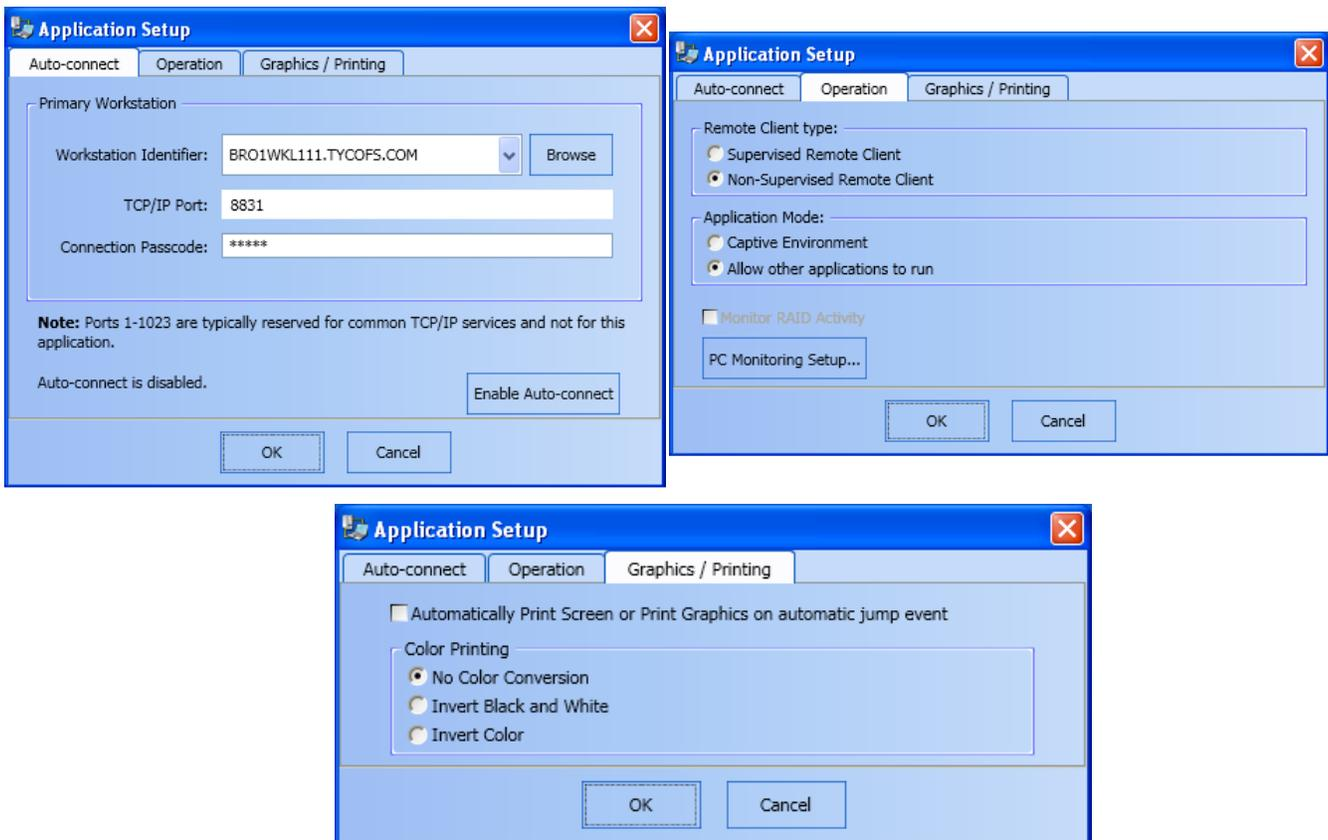
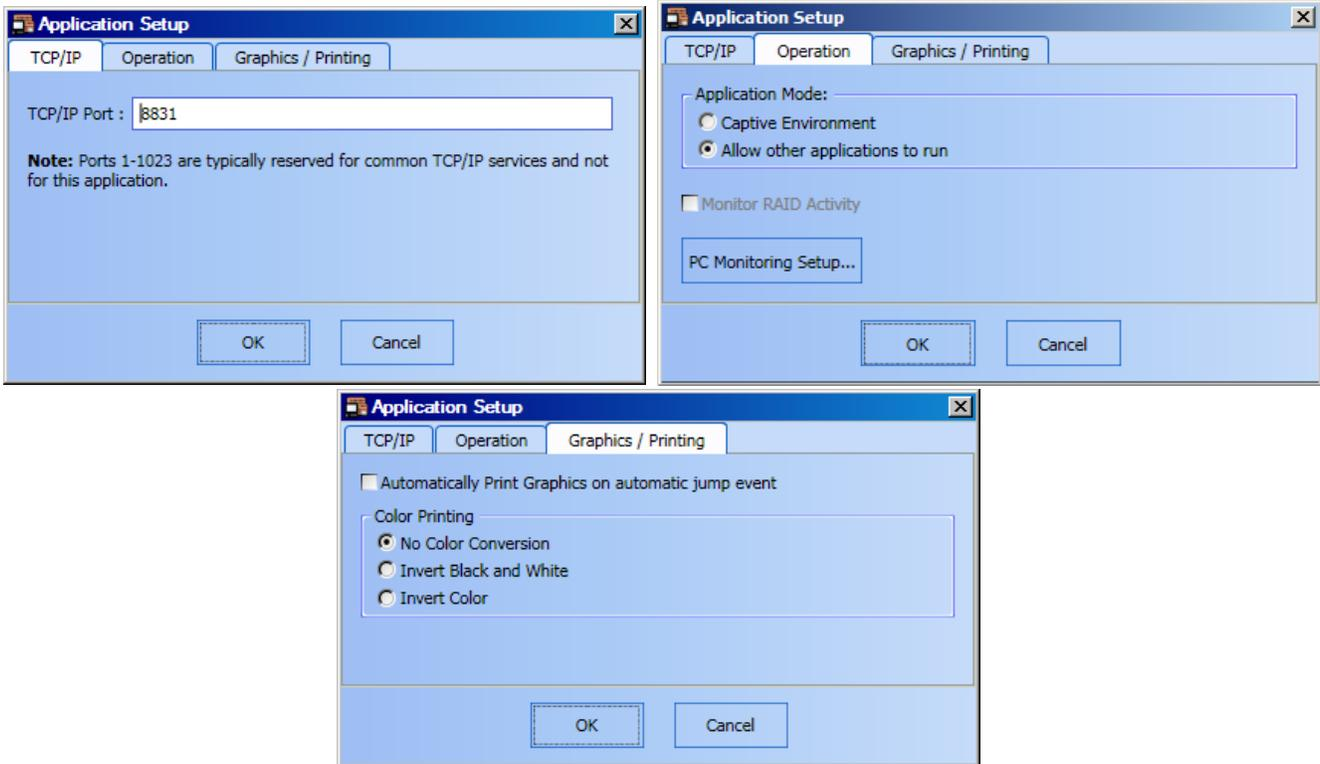

Figure 3-14 Application Setup Dialog Box on a Remote Client PC
Figure 3-15 Application Setup Dialog Box on a TSW PC
3. The **Application Setup** dialog box appears. Refer to Figure 3-14 for TSW Client installed on a Remote Client PC. Refer to Figure 3-15 for TSW Client installed on a TSW PC.
From the **Application Setup** dialog box (Figure 3-14 or Figure 3-15), you can select the TCP/IP port that you want the TSW application to use when communicating between TSW and Remote Client PCs. Port 8831, as shown in Figures 3-15 and 3-14, is entered by default. If needed, another port number can be chosen as long as that port is not being used by a service on the TSW or Remote Client PCs. For instance, ports between 1 and 1023 are reserved for common TCP/IP services and cannot be entered. Verify with the local IT department which computer port can be used prior to replacing the default number.